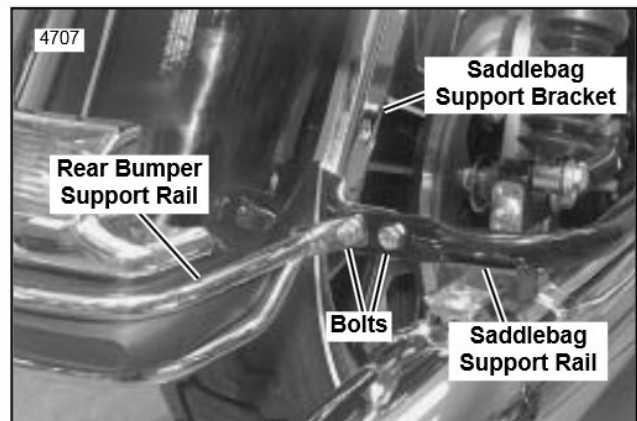

Figure 3. Remove Lower Saddlebag Support Bracket Bolts
4. See Figure 3. At rear of vehicle, remove outside bolt (with locknut) securing saddlebag support rail to lower flange of saddlebag support bracket.